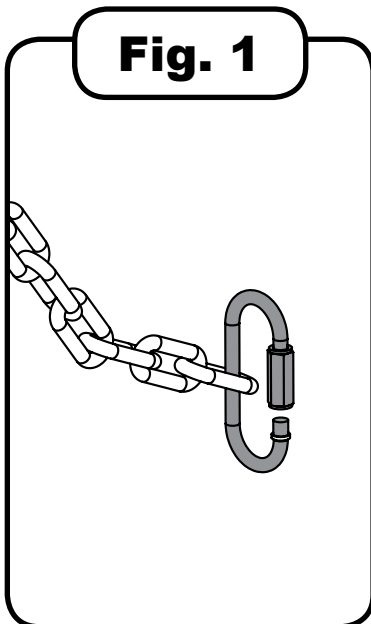

Fig. 1
1. Taking one length of chain from the coated end, place the outermost link through the Standard Quick Link as shown in (Fig. 1).